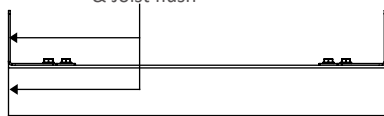

Fig. 119
4. Insert the two cut Joist assemblies into openings in inside face of U-Rim between the two mounted Front Post Blocking. As shown in Fig. 119.